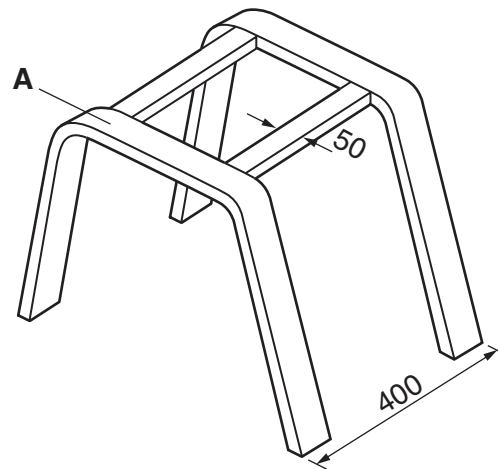

Fig. 2
- 2 Fig. 2 shows the underframe for a small stool.